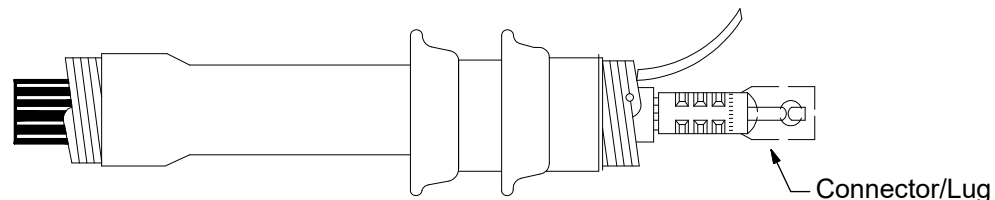

Figure 5
9. Install either the lug or pin terminal connector using the Y-35 tool with a U25ART die for #2 or 1/0 and a U249 or U28ART die for 4/0. Crimp as many times as possible without overlap. Remove excess oxide inhibitor and sharp crimp flashing. See Figure 5.